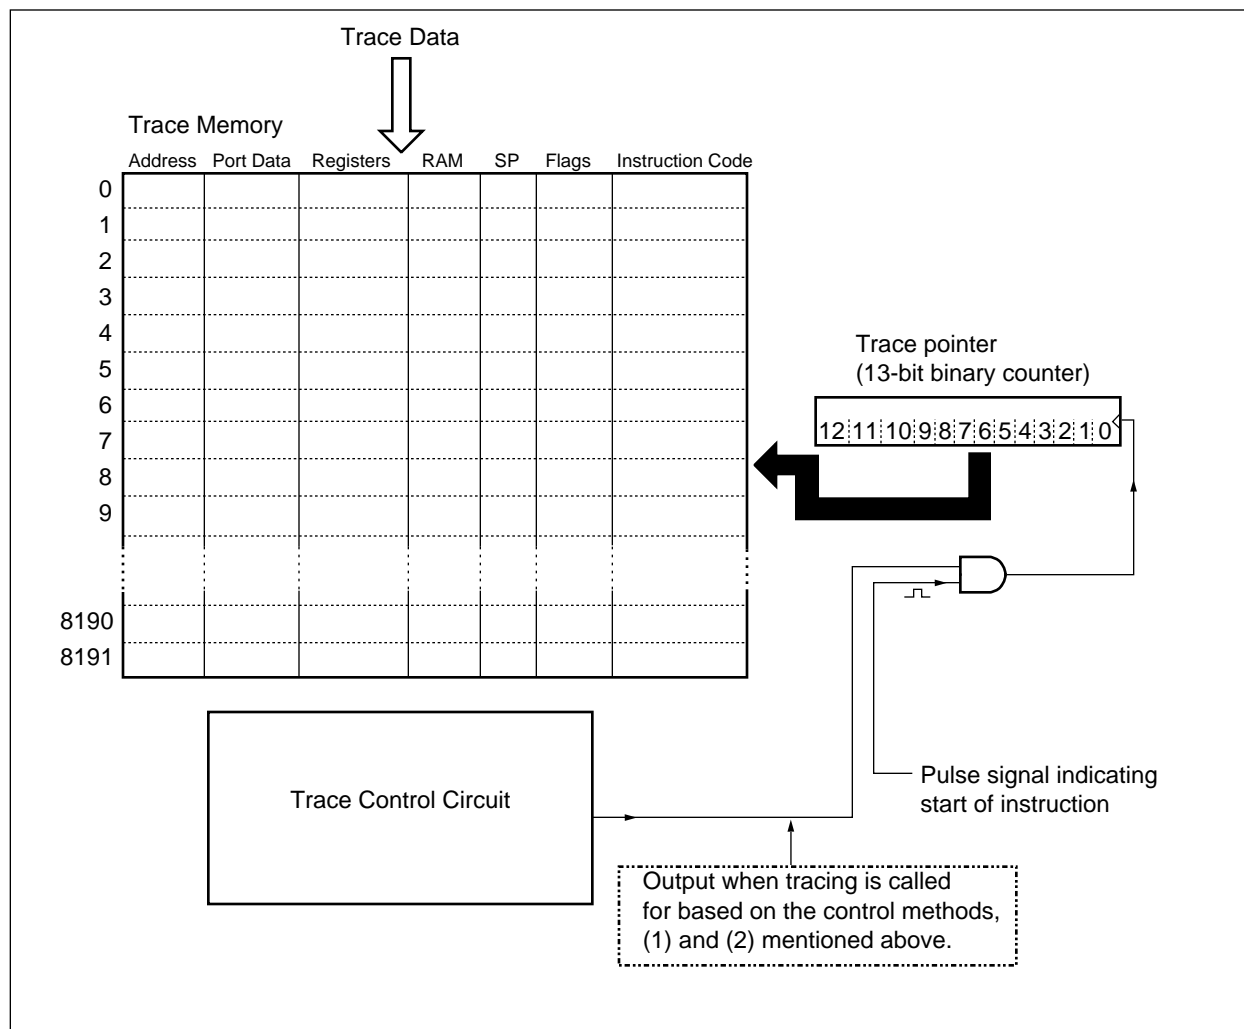

Figure 3-2. Trace Control Conceptual Diagram
The trace pointer controls the address in trace memory to which data will be written. The trace pointer is actually a 13-bit counter which increments every time an instruction is executed under the conditions described in (1) and (2) above (refer to Figure 3-2).